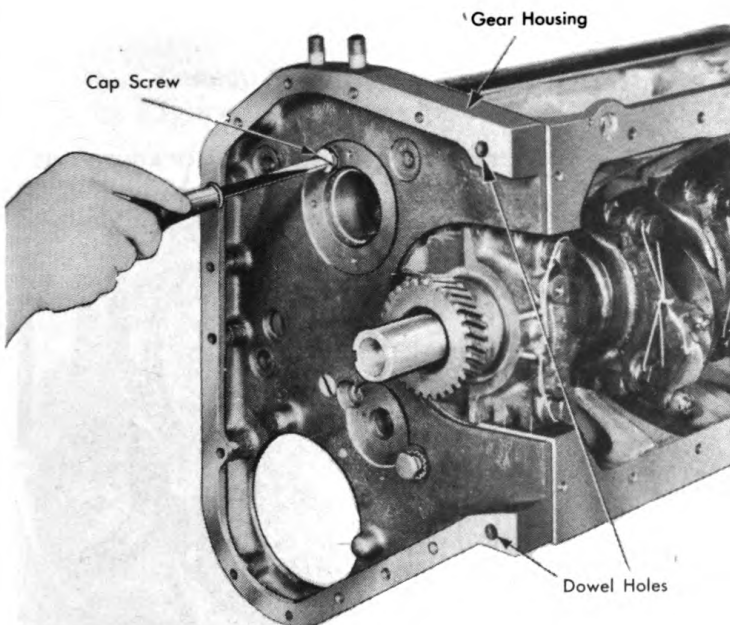

Figure 133. Removing Gear Housing Cover.
29. Remove the front gear housing. Four capscrews, two countersunk screws, and two dowel bolt nuts, as shown in Figure 133, hold it in place.